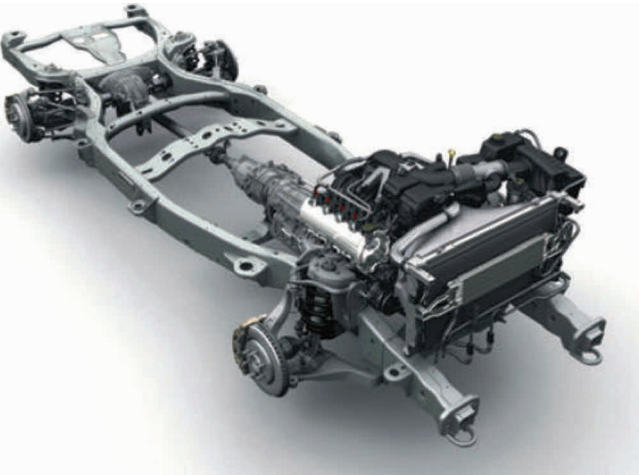

Figure 9.6 4 WD transmission layout.
- extra drive shafts to supply drive to the extra axle (Figure 9.6).